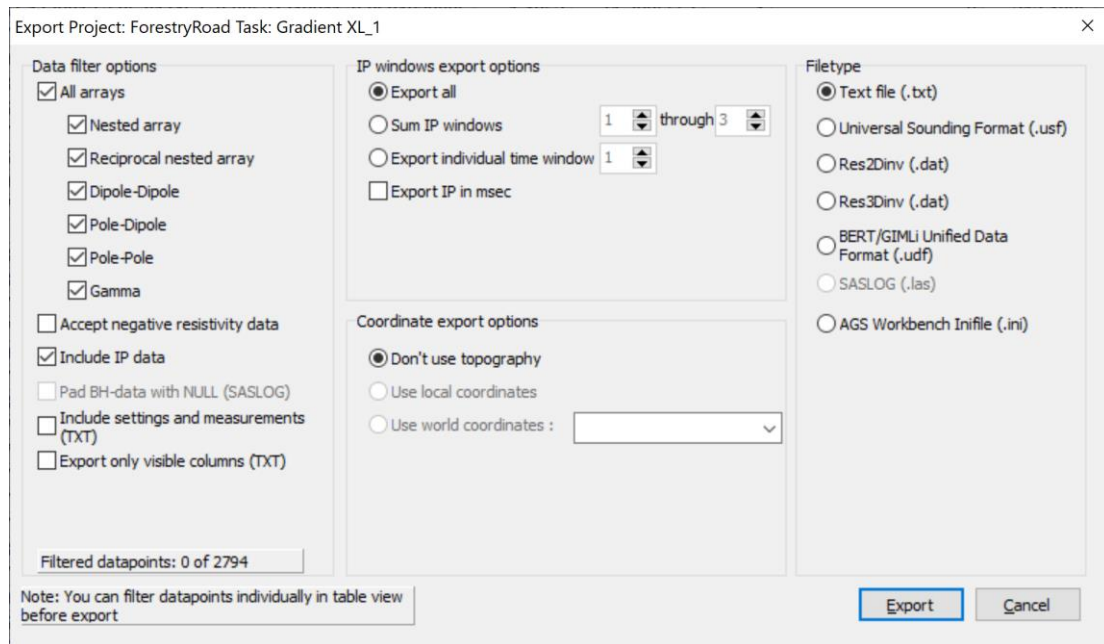

Figure 126 LS Toolbox export window
- Export data to a number of different formats (“Export...”, see Figure 126)